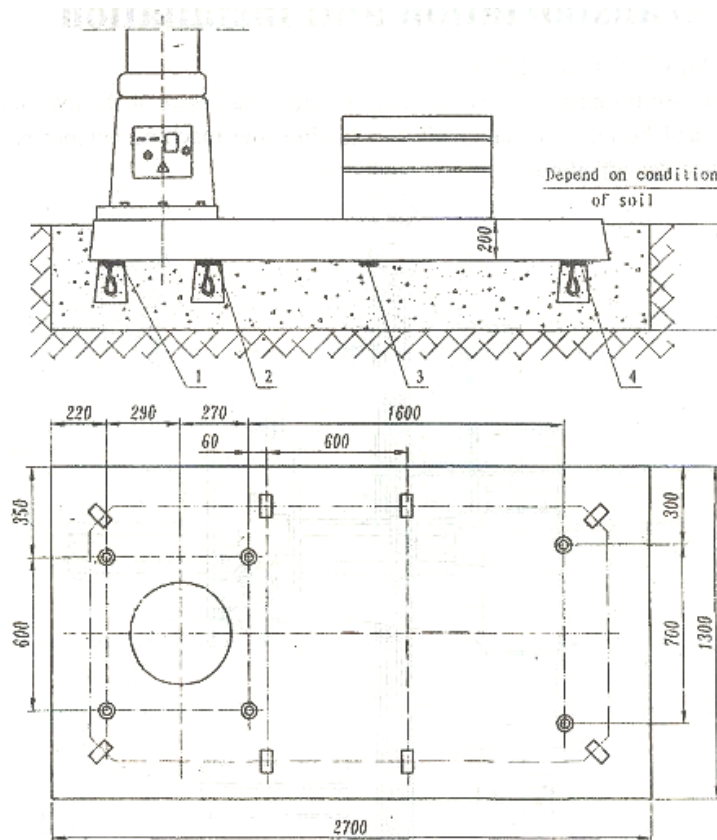

Fig. 3-2
3.2 Installation and adjustment (fig3-2)
Don't relieved column clamping to avoid the title of machine before the ground base being ready. First put the bolts into the base back plate and then set the base plate on the ground while put the pairs of back blocks I、II、III as the Fig.3-2. The longitudinal and cross plate lever should within 0.04/1000. Start to adjust the each precision value after the installation and the machine running according the values stipulated on the certificates of the manufacturer which was got in the measurement procedure by the manufacturer. After adjustment, fix bolts and back blocks by concrete. Fasten the bolts, and check the precision